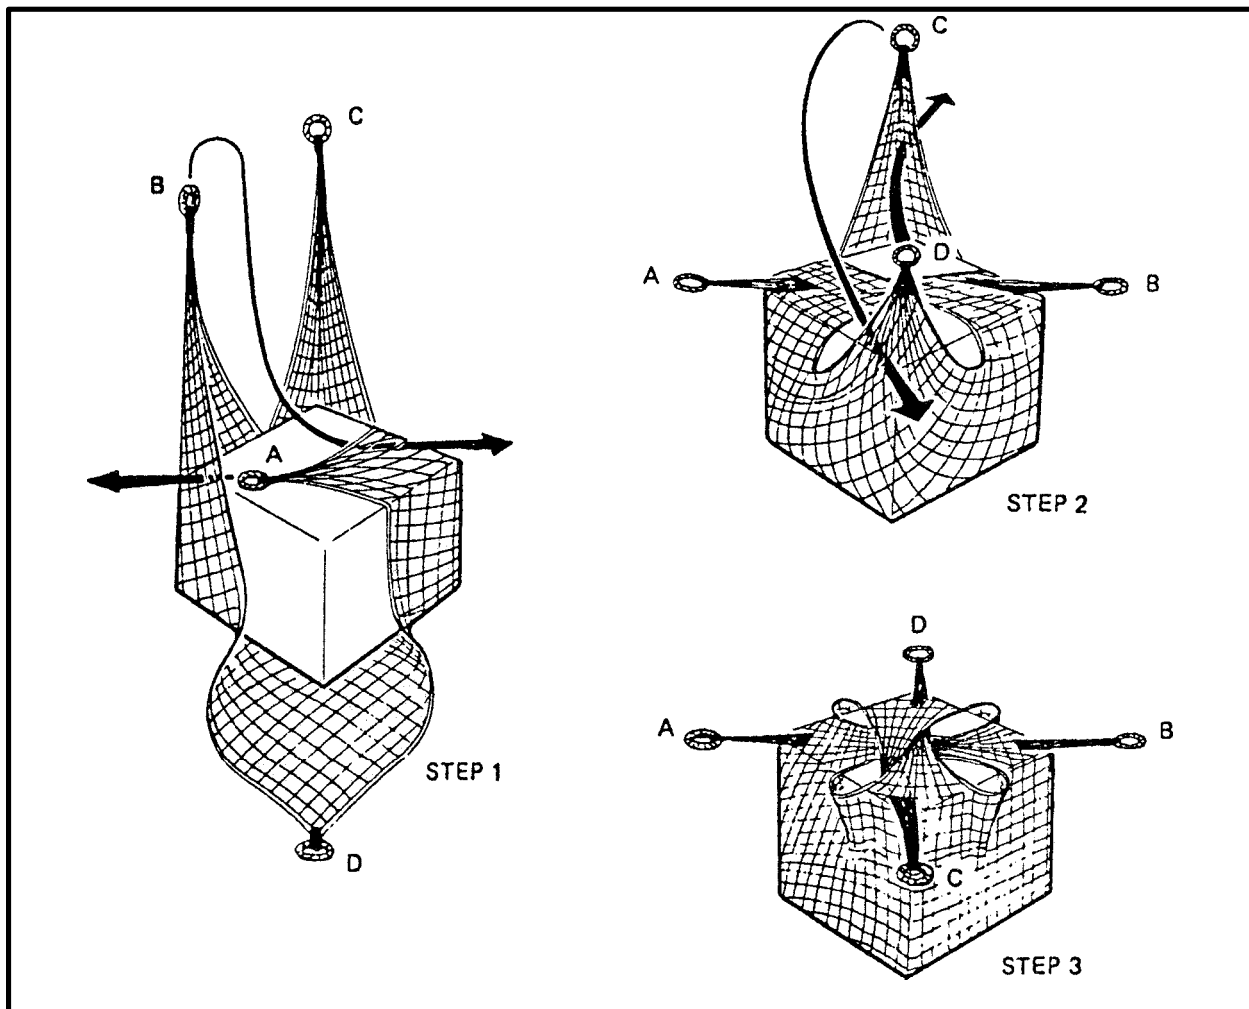

Figure 9-7. Securing Cargo Net with Loose Cargo
- (1) Avoid lightweight (less than 100 pounds) loads because of their instability during flight.
- (2) Do not load small cartons on the bottom of the net where they could be forced out through the openings in the net.
- (3) Cover or secure lightweight or small items together to keep them from blowing out of the net. Once they are packed together, place them on top of the larger loads.
**NOTE:** One method of safeguarding small items against loss in flight is to secure the corners of the net together by taking opposing corner rings and weaving them through at least two web straps in the webbing below the opposite rings. Figure 9-7 illustrates the steps to be used. Fasten the sling leg through all four corner rings. When the helicopter lifts the net, the weight of the load will cinch the net and prevent the items from being lost through the net.
- (1) Band or strap cargo securely to the pallet.
- (2) Lay the cargo net out on the deck and place the loaded pallet in the center.
- (3) Draw the net up around the load and lay the corners of the net loosely on top of the load.
- (4) Secure the net (corners) rings with a becket.